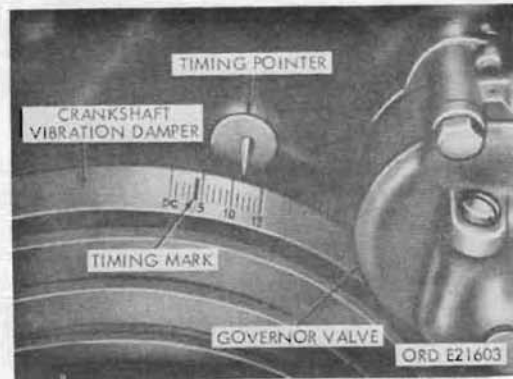

Figure 141. Timing pointer and marks
b. Installation. With the ignition switch in the OFF position, turn the engine over by small increments with starter until the 4-degree timing mark stops in line with the timing pointer (fig. 141). Remove the distributor cover and the rotor. Install the distributor in position in the side of the cylinder block while turning the distributor cam to engage the distributor drive coupling with the coupling on the oil pump shaft in the block. Install the two distributor mounting clamps with two external-teeth lockwasher hex-head screws, but do not tighten the screws. Place a straightedge across flat on the side of the cam and
of each cylinder when each piston position is 4 degrees before top dead center on the compression stroke. Timing is checked by means of a small timing pointer, set in the timing gear cover in conjunction with degree marks on the outer rim of the crankshaft vibration damper (fig. 141). Due to the waterproof design of the ignition system, a timing light adapter, or substitute, is required for connecting either the 2- or 3-wire timing light. After initial setting of distributor by the timing light, the vehicle should be road-tested, and a small distributor adjustment made to compensate for excessive ignition ping or knock.
- (3) Checking timing. With the engine running at 400 rpm or below, direct the beam of the timing light down at the timing pointer (fig. 141). The relation of the timing marks with the timing pointer can be seen by flashes of the timing light. Timing is correct when the pointer coincides with the 4-degree mark when the light flashes.
- (4) Correcting timing. To correct the timing, loosen the mounting clamps holding the distributor to the crankcase and rotate the distributor slightly. Clockwise rotation will retard the spark, counterclockwise rotation will advance it. Adjust the distributor until the pointer registers with the 4-degree